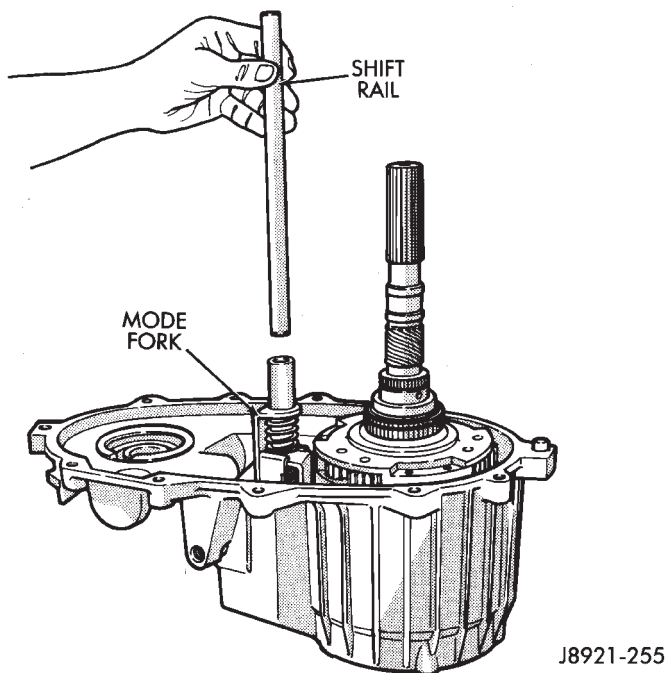

Fig. 24 Shift Rail Removal
(4) Remove shift rail by pulling it straight up and out of fork (Fig. 24).